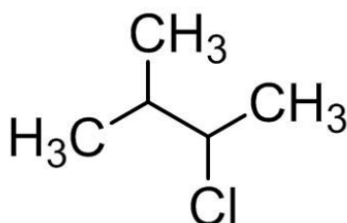

Figure 2: 2 chloro-3-methylbutane.
- (2). Consider Friedel Crafts alkylation between benzene and 2-chloro-3-methylbutane in the present of AlCl_3 . Fig. 2 shows the chemical structure of 2-chloro-3-methylbutane.